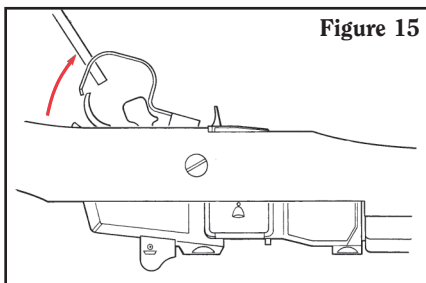

Figure 15
- Invert the rifle and use a 1/4" diameter steel rod, punch, screwdriver shank, or other suitable instrument inserted into the hole in the rear of the trigger guard as a lever to spring open the trigger guard from its latched position. (See Figure 15.)